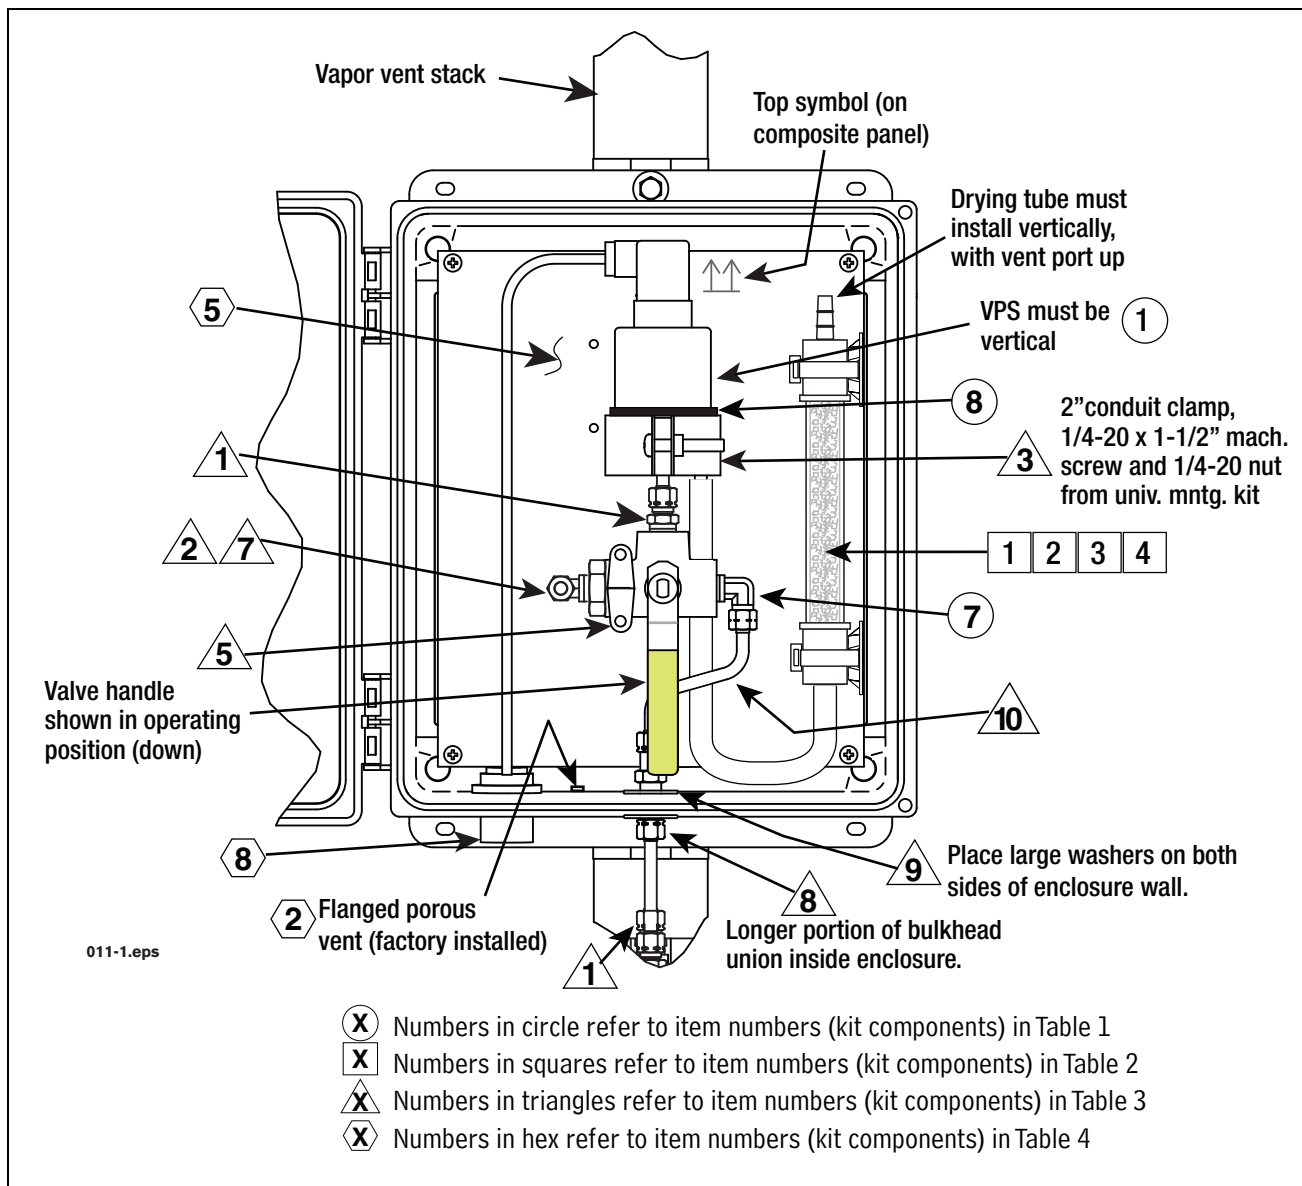

Figure 2. Direct-Wired VPS Sensor Installed in Vapor Vent Stack Enclosure
4. Install the VPS sensor (item 1 in Table 1) vertically onto the center of the composite panel (item 5 in Table 4). Insert the VPS in the 2-inch conduit clamp using necessary bolts, nuts, and washers included in the universal mounting kit (item 3 of Table 3). Be sure the  symbol on the panel is facing upwards (see Figure 2). Wrap the rubber shim (item 8 in Table 3) around the VPS before inserting it into the clamp. Also make sure the VPS cable outlet is facing up and the pressure sensing port tube in the base of the VPS is facing down. Locate the VPS sensor in the clamp, but leave the conduit clamp screw somewhat loose for later sensor height adjustment.
5. Install two 169CA-4-4 male elbows (item 7 in Table 3) into each end of the 3-way calibration valve (item 5 in Table 3) as shown (see Figure 2).
6. Install one 68CA-4-4 male connector (item 1 in Table 3) into the center port of the 3-way calibration valve, and then directly attach it to the VPS inlet port (center) (see Figure 2).
7. Screw the 59CA-4 plug (item 2 in Table 3) onto the left port's male elbow (see Figure 2).
9. Install the composite panel into the enclosure (item 5 in Table 4) such that the VPS cable outlet is facing up and the pressure sensing port tube in the base of the sensor is facing down. The  symbol on the panel should be facing upward (see Figure 2). Use the four short screws included in the enclosure hardware bag.
10. Make sure that the white flanged porous vent (factory installed - item 2 in Table 4) is still securely installed into the hole in the bottom of the enclosure (see Figure 2).
11. Insert the S-bend 1/4" OD copper tube (item 10 in Table 3) into the right-side male elbow of the 3-way calibration valve, but do not fully tighten the compression nut (see Figure 2).
12. Locate the 62CABH-4 bulkhead union (item 8 in Table 3) and remove the compression nut and the adjustable nut then place a large washer (item 9 in Table 3) against the fixed, integral body nut. Slide the compression nut that was removed onto the bottom portion of the S-bend tube.
15. Fully tighten the compression nuts to connect the S-bend tube to the union and to the male elbow. Tighten the sensor conduit clamp screw to secure the sensor in its final vertical position (see Figure 2).
16. Get the contents of the pressure sensor drying tube kit (Table 2). Thread a tie wrap (item 3) through the slots in each of the self-adhesive mounts (item 4). Place the top mount against the large cap on one end of the tube and tighten the tie wrap until it is against the tube cap but you can still rotate the tube. Place the second mount against the other end cap of the tube, again pulling the tie wrap through the mount until it is against the tube cap but you can still rotate the tube.
Remove the two soft plastic seals from each end port of the drying tube. Get the Tygon tubing (item 2) from the kit and attach one end of the tubing to one end of the drying tube. Slide the tubing onto the drying tube as far as you can (snug). Referring to Figure 2, position the drying tube vertically in the enclosure with the open port of the tube up, and estimate the length needed to loop from the bottom of the drying tube up to the vent port (off center) of the VPS sensor. Cut the Tygon tubing at the estimated length (approximately a foot or so). Remove the paper cover from the self-adhesive base of the two tie wrap mounts and stick the drying tube to the inside of the enclosure as shown in Figure 2. Pull each of the tie wraps snug and cut off the excess. Attach the other end of the Tygon tubing to the vent port (off center) of the VPS sensor. NOTE: the upper port of the drying tube must remain open and be oriented up as shown in Figure 2.
22. Make sure the valve's handle is set to connect the VPS to the vapor vent stack as shown in Figure 2 and not to the capped (vent) port.